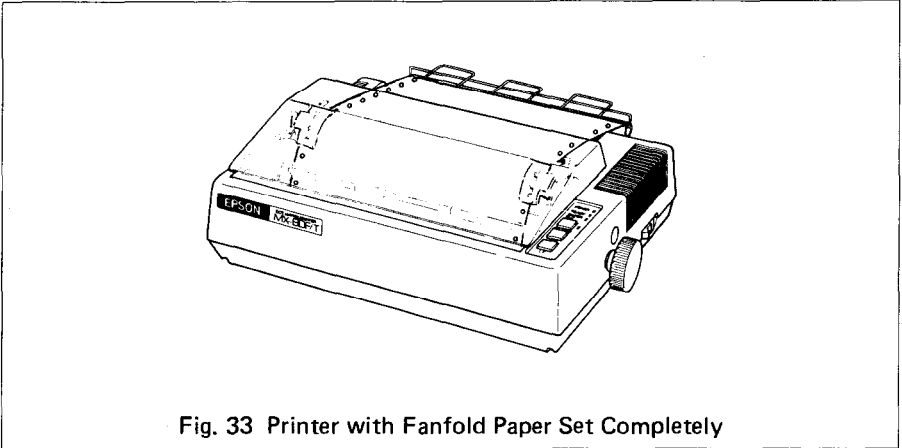

Fig. 33 Printer with Fanfold Paper Set Completely
STEP 10. Put the printer lid on the Printer. (See Fig. 33.)